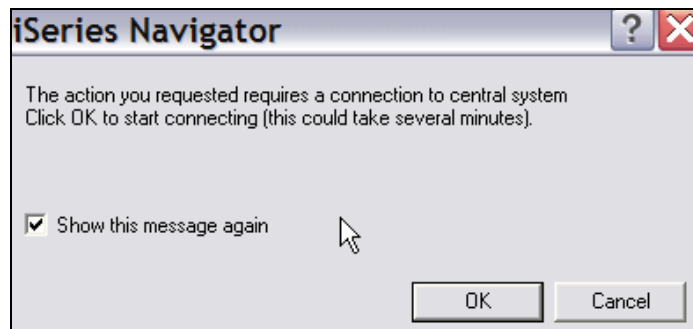

Figure 5-67 BRMS run Domino backup
3. Click **OK** in the window shown in Figure 5-67, and wait until the connection to the central system is complete.